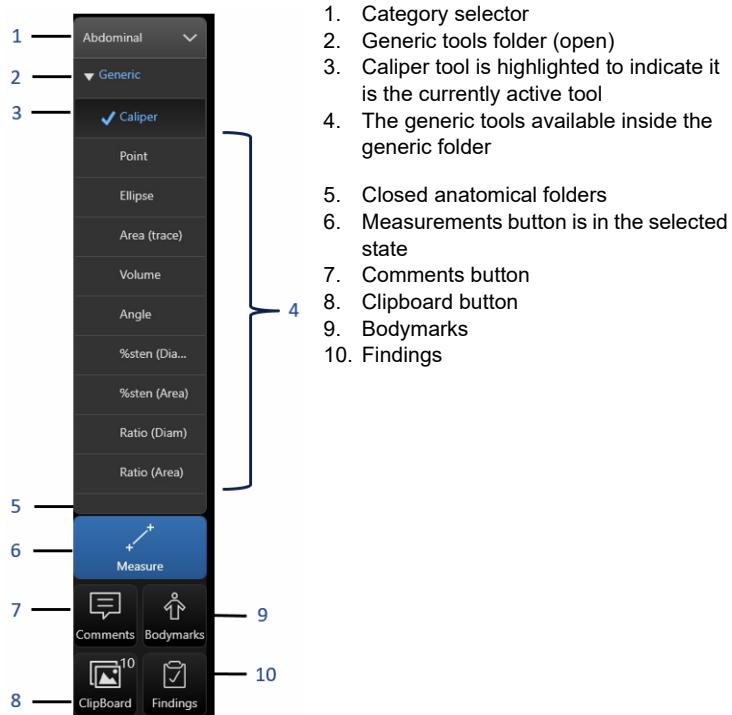

Figure 7-2. Measurements menu
The list of measurement labels appearing on the assignment list depends on the current **Exam** category, appearing on top of the measurements menu (Figure 7-2, item 1).
An example of such a menu is shown in Figure 7-2, which appears when using an abdominal preset.
A Measurement menu opens on the left (Figure 7-2) and a hand symbol appears, with an active caliper above it.